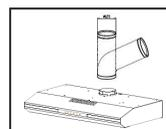
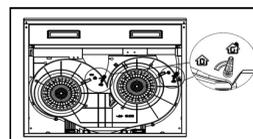

Fig. 6
Fig. 7
Connection to Exhaust Air Pipe (Fig. 6)
Operating mode setting (Fig. 6 & Fig. 7 & Fig. 7. 1)
- ▶ For ducted mode, slide the lever to position as shown (Fig. 7).
- ▶ Top vented : fit outlet connector and use $\varnothing 120\text{mm}$ pipe (Fig. 6). Note: Application pipe is not provided.
- ▶ For **recirculation mode**, install outlet cover, slide the lever to position as shown (Fig. 7. 1). Note: grease filter and charcoal filter are used.